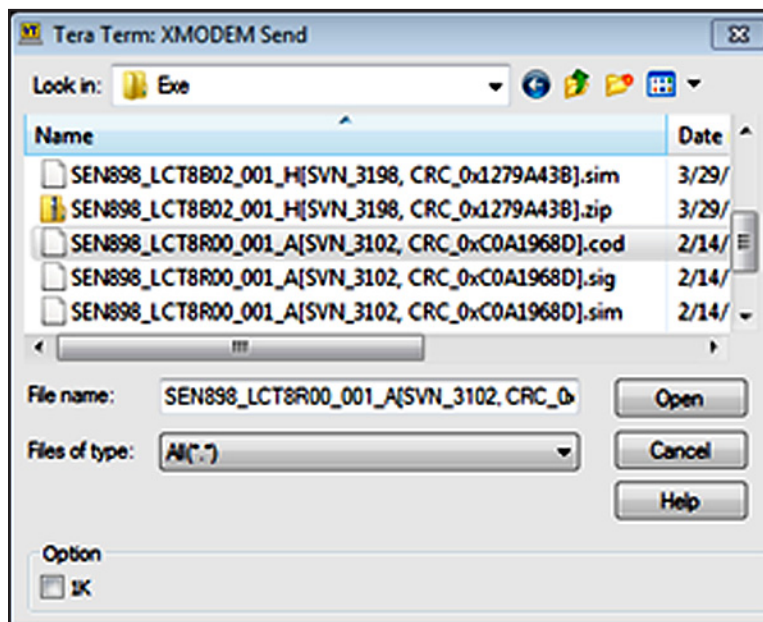

Figure 13: XMODEM Send File Selector
- When the *Tera Term: XMODEM Send* file selector window opens (see *Figure 13* below), locate and select the **.cod** extension file from your PC. After selecting the **.cod** extension file, click **Open** and the status window shown on the left in *Figure 14* below opens. At this time, the meter display shows the *file receive status* (see the right of *Figure 14* on page 100 below).